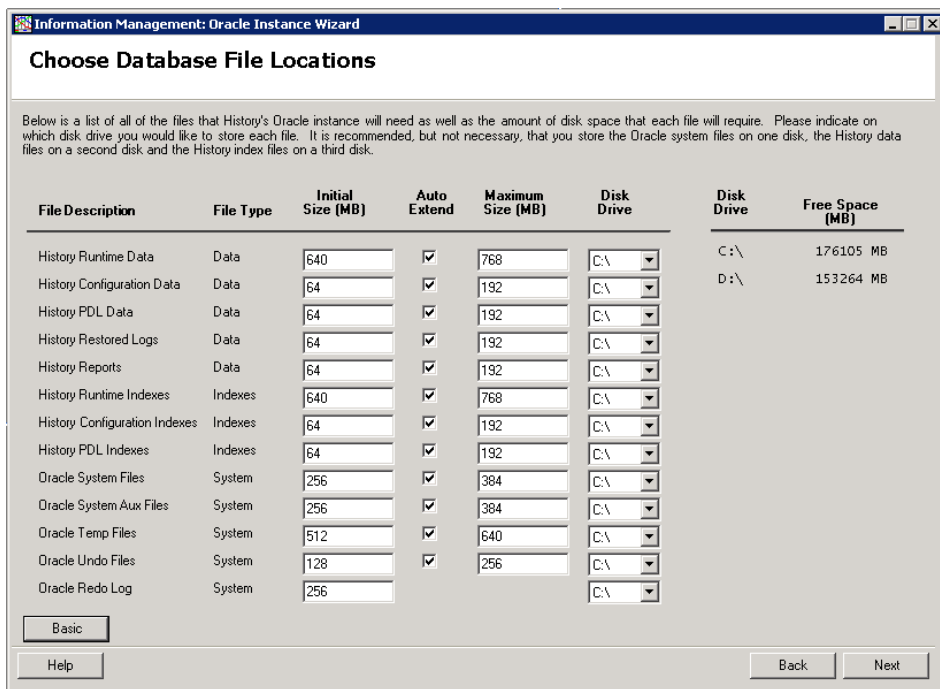

Figure 47. Advanced Database File Locations Information
10. Click **Advanced** to access the advanced version of this dialog box (Figure 47) that allows the disk drive, initial memory size, and maximum memory size of each type of file to be specified.